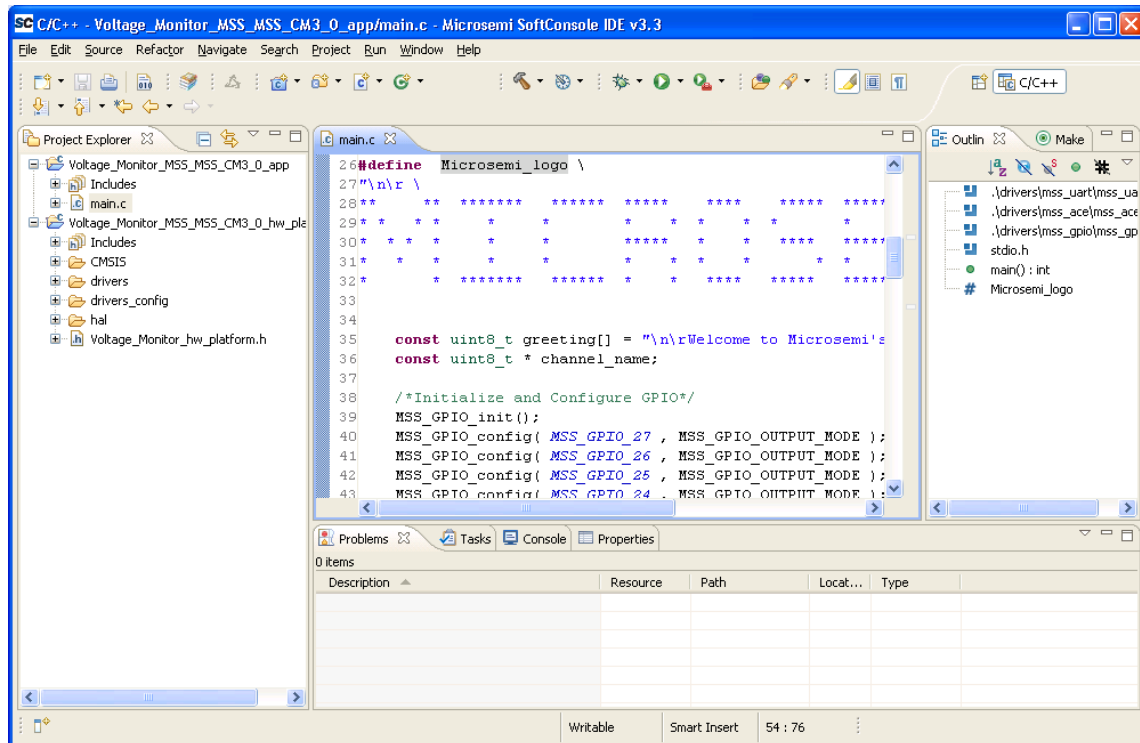

Figure 23 SoftConsole workspace
4. The SoftConsole window looks similar to Figure 23.